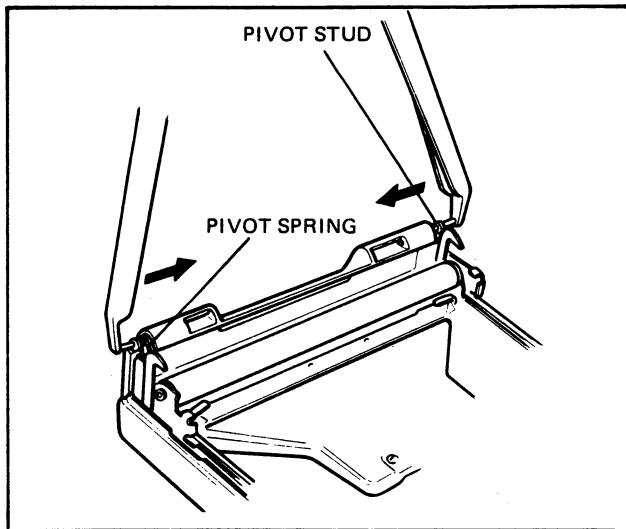

FIG. 5.2 INSTALLING THE EXIT DOOR
2. Secure the pivot studs using tool #169455 (Figure 5-2).